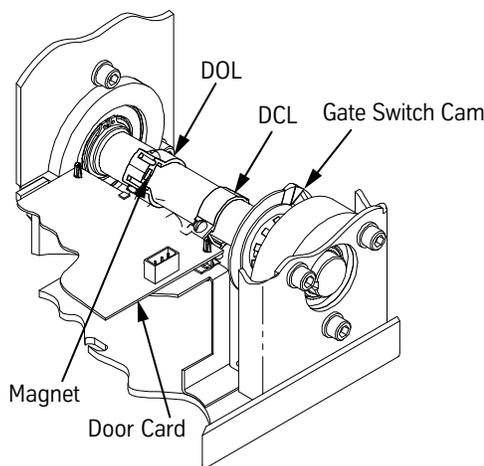

Figure 13 - Door Operator Cams
2. Physically move the door to the fully closed position, noting which direction the cam shaft rotates. See Figure 13.